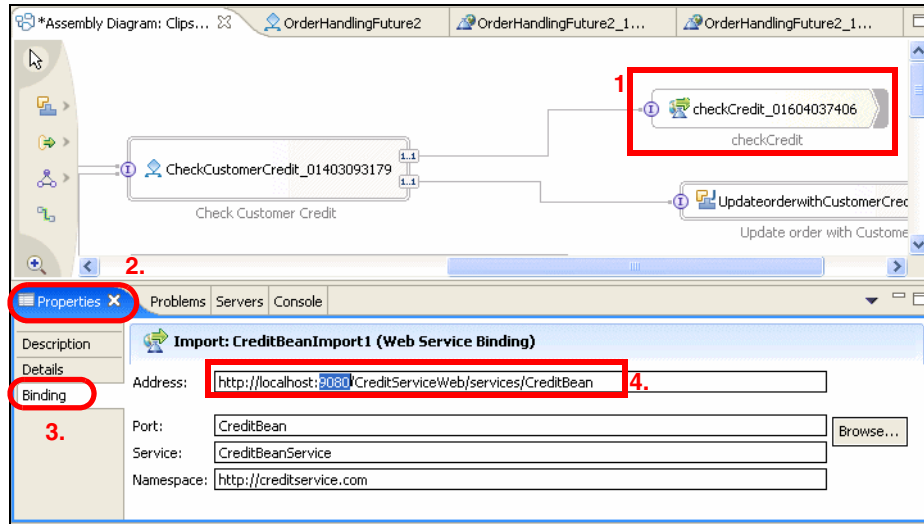

Figure 16-30 Changing ports: checkCredit Web service bindings
- ▶ Change the port setting in the `checkCredit` Web service binding (Figure 16-30):